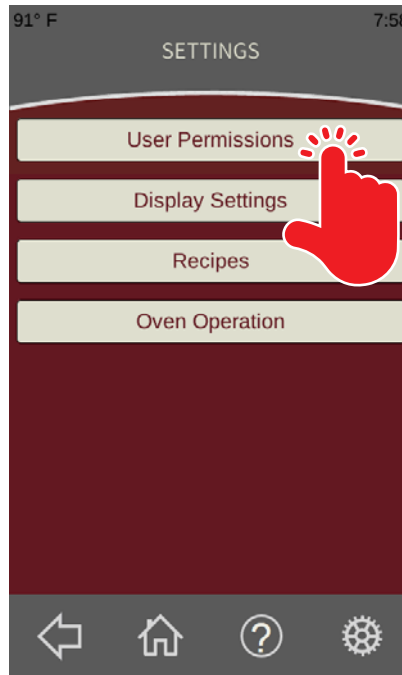

Fig. 55
1. From the **Settings Screen** (Fig. 55) touch the User Permissions button (Fig. 55). The **Permissions Settings Screen** should be displayed.